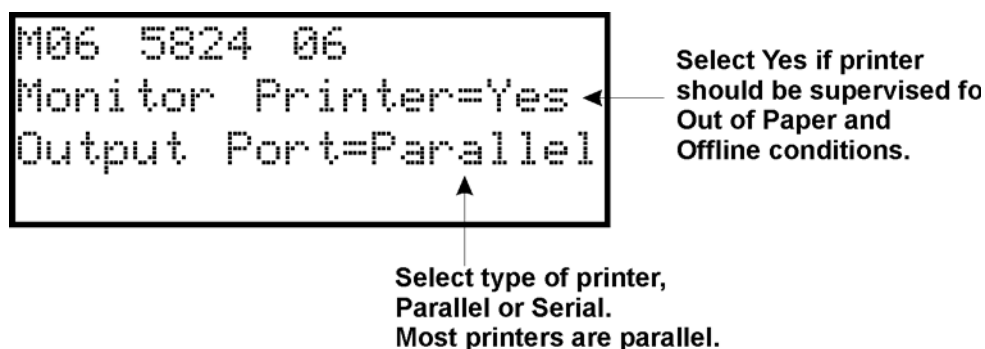

Figure 4-16 Selecting Printer and Output Port Options
5. Press ENTER to bypass the next two screens. A screen similar to the one shown in Figure 4-16 will display.